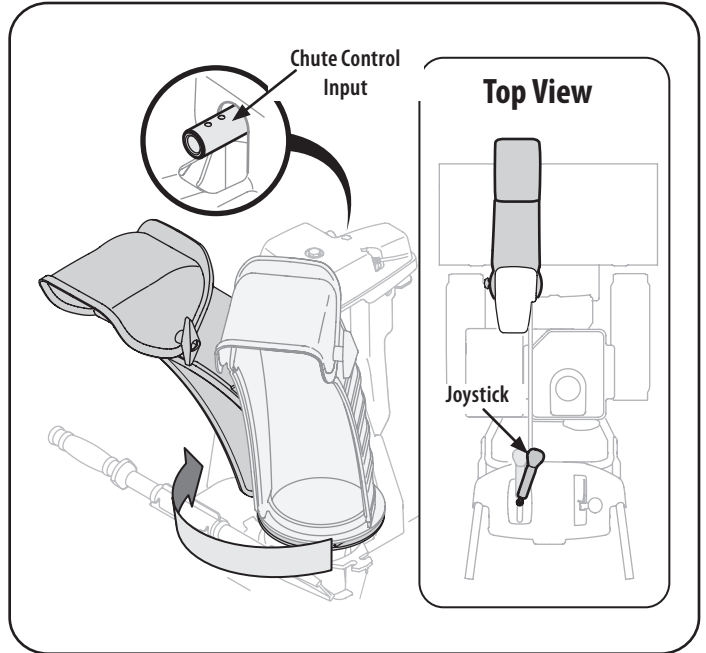
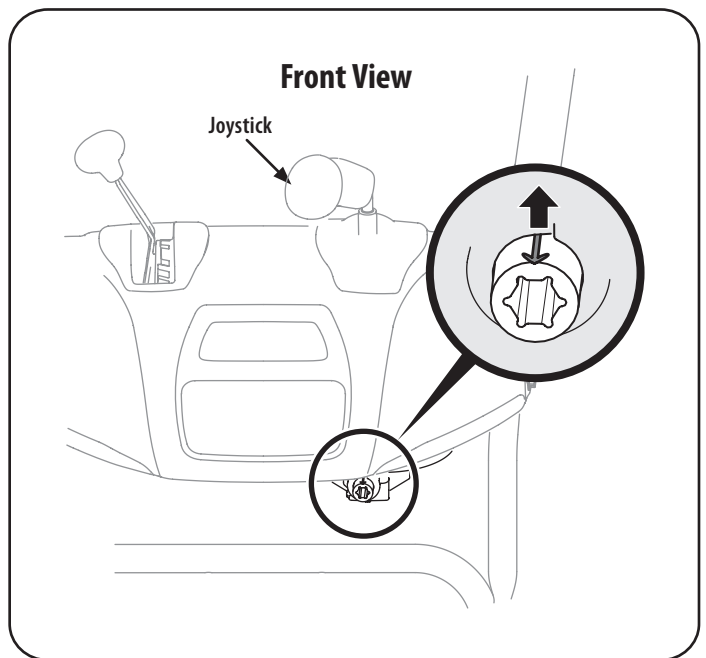

Figure 6
Figure 7
5. Squeeze the trigger on the handle panel joystick and rotate the chute by hand to face forward. The holes in the chute control input will be facing up. See Figure 6.
6. Rotate the joystick to the one o'clock position so the silver indicator arrow on the input shaft below the control panel points upward. See Figure 7.
**NOTE:** The joystick will be angled slightly to the right. See Figure 6 & Figure 7.